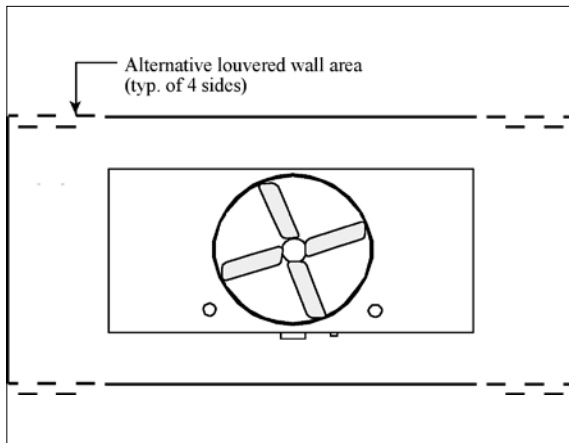

Figure 8. Plan View of Dual Air Inlet Unit with Alternate Louver Arrangement
- b. If the available space does not permit the unit to be arranged with the air intakes facing the louvered or slotted walls and the enclosure cannot be modified to permit such an arrangement, consider the alternative illustrated in **Figures 8** or **9**. This arrangement should be restricted to one-cell or two-cell installations. The effective area of the louvers is only the length extending beyond the width of the unit.